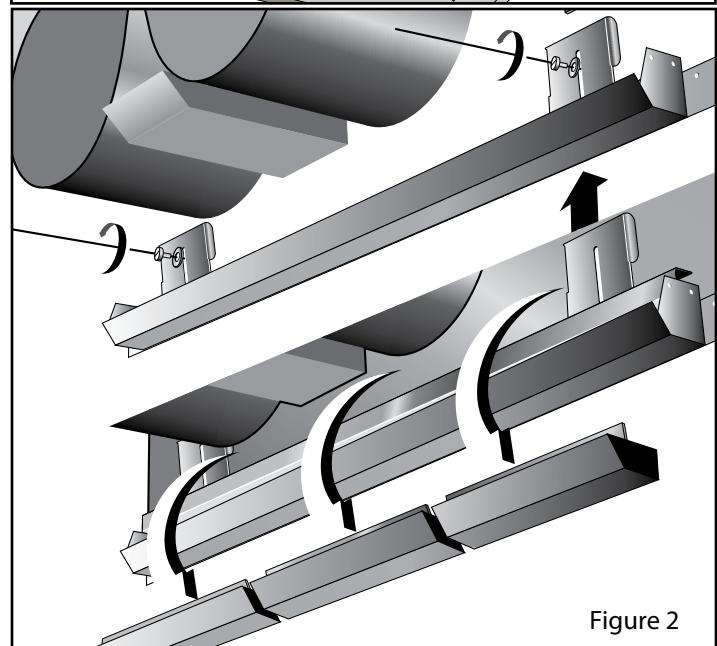

Figure 2
- Unscrews the knobs that fix the drip trays holding brakets. Figure 2
- Grasp the drip tray and carefully lift it up and out of the hood track. Figure 2.